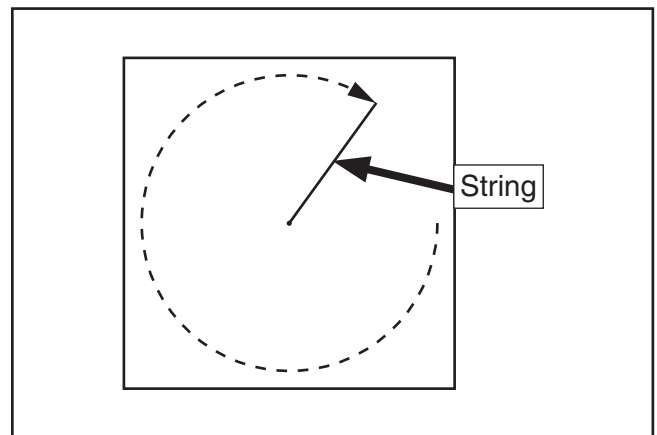

Figure 43. Using string to draw outer circumference circle.
4. Press one end of string to center point marked in **Step 2**, then use other end to draw outer circumference of cone on workpiece (see **Figure 43**).